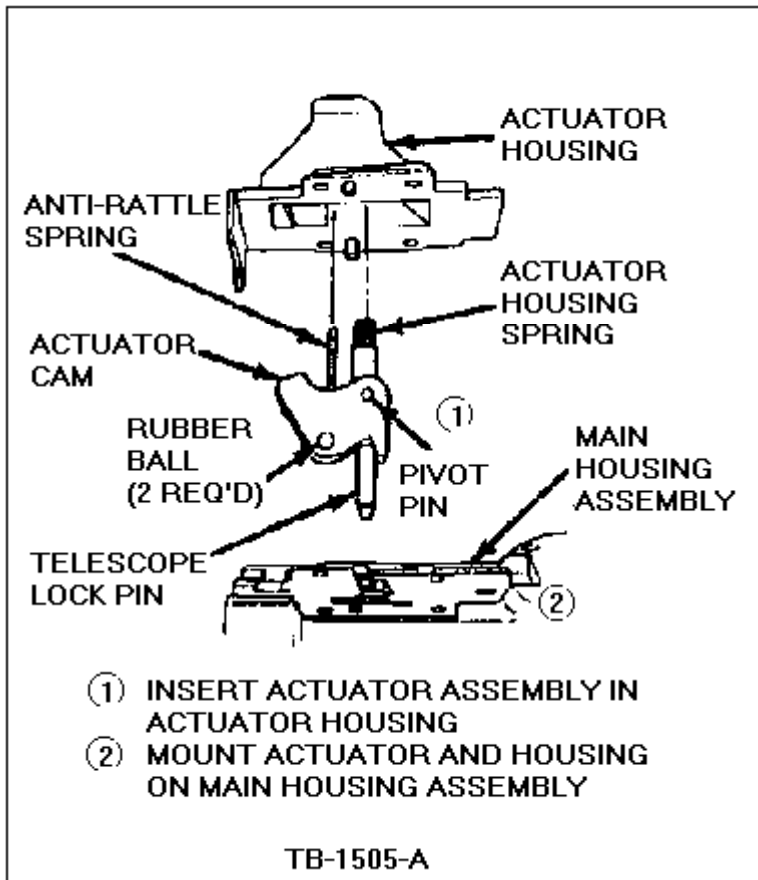
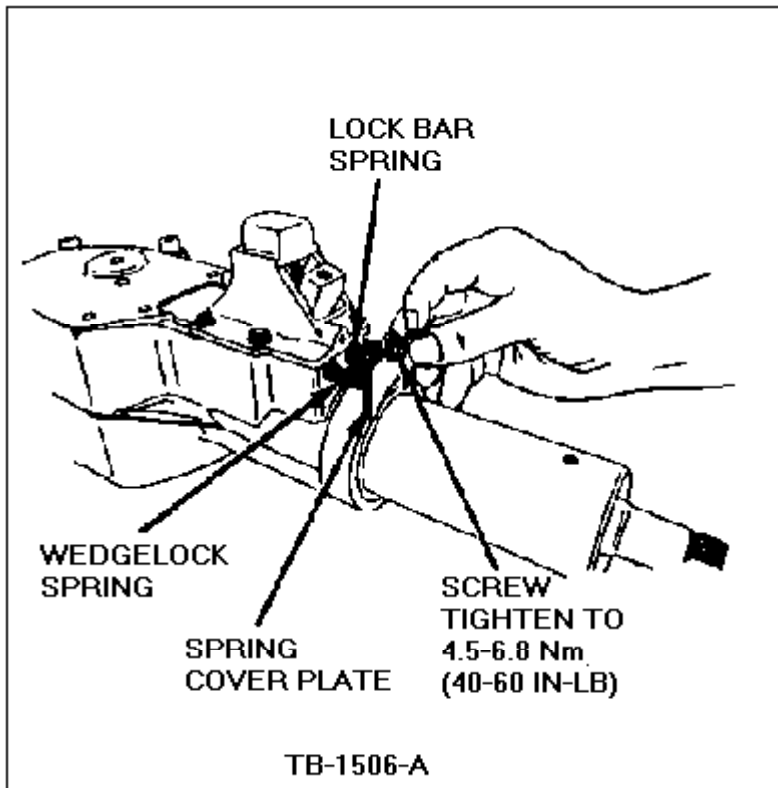

Figure 38 - Article 90-5-10
Figure 39 - Article 90-5-10
37. Press the pivot pin into its hole in the lock pin and actuator cam until it is flush to .015" (.381 mm) below the actuator cam, Figure 38.
38. Grease the two (2) cavities on the sides of the actuator cam and insert a rubber ball in each cavity.
40. Assemble the spring into the bushing in the actuator housing and anti-rattle spring into the other cavity in the actuator cam housing, Figure 38.
41. Assemble the lock pin and the actuator cam into the actuator housing. Make sure to seat the spring in the cavity at the end of the lock pin and the anti-rattle spring in its cavity in the actuator cam, Figure 38.
43. While holding actuator and main housing tighten the four (4) self-tapping screws to 40-60 lb.in. (4-7 N-m).
44. Assemble the spring on the end of the lock bar and the spring on the end of the wedge lock, Figure 39.
45. Assemble the spring cover plate over the springs and firmly hold in position while turning the screw into the actuator housing. Tighten the screw to 40-60 lb.in. (4-7 N-m), Figure 39.